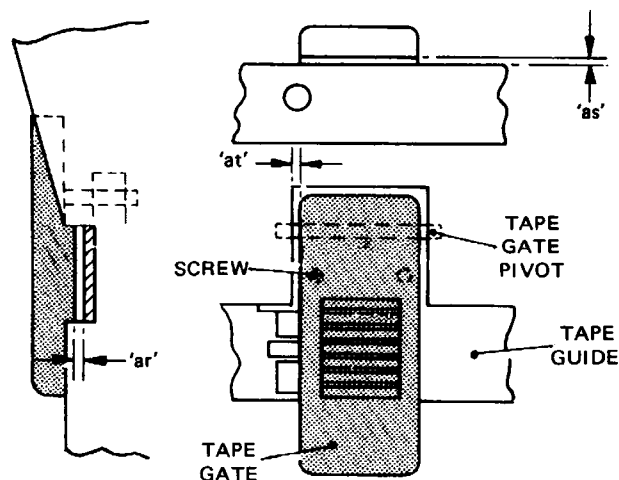

Fig. 4.48 TAPE GATE
- 51.1 Check that the gap between the gate and the tape guide on the right-hand side of the gate (dimension 'ar' of Fig. 4.48) is 0.010–0.014 inch.
- (d) measure the clearance between the gate and the tape deck on the left-hand side (dimension 'at' of Fig. 4.48),